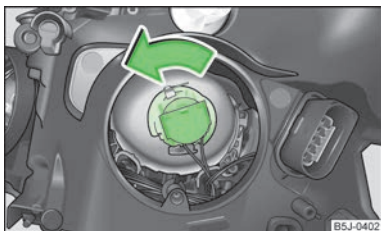

Fig. 148
- Turn the connector with the bulb in **anti-clockwise** direction up to the stop » Fig. 148 and remove it.